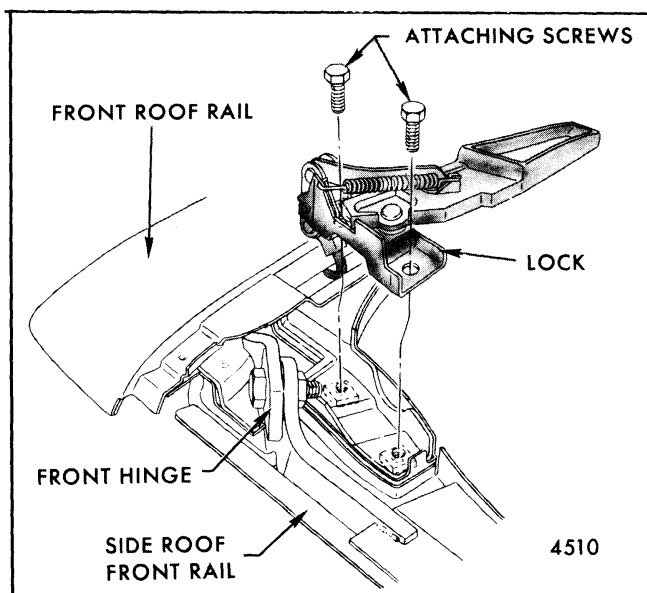

Fig. 8-64-Front Roof Rail Lock Attachment
2. With lock handle in open position as shown in Figure 8-64, detach spring, remove lock attaching screws and remove lock.